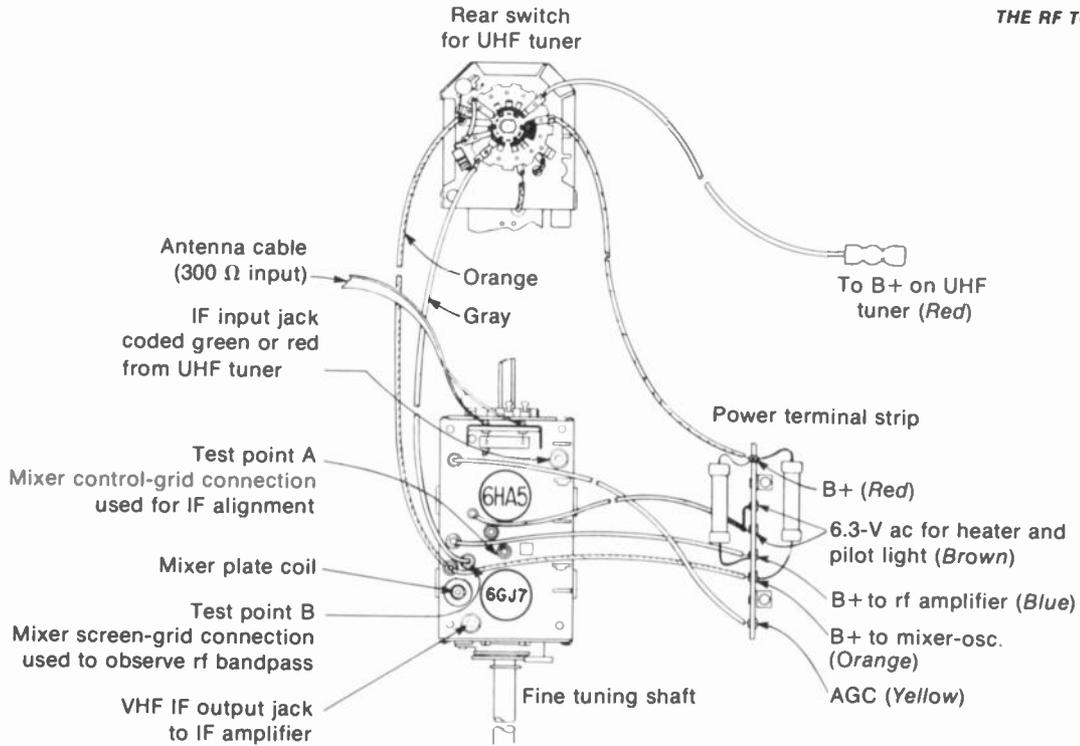

FIGURE 24-3 CONNECTIONS ON VHF TUNER. (ZENITH 750 SERIES)
**Tuner connections.** As illustrated in Fig. 24-3, the VHF tuner needs connecting leads for B+ voltage, AGC bias, and heater voltage for tubes. The IF output is connected to the IF amplifier by a short length of coaxial cable with a plug at the tuner end. Output from the UHF tuner also has a coaxial cable that plugs into the VHF tuner. Since there is a terminal strip for the electrode voltages and coaxial plug connections for the signal leads, it usually is relatively easy to disconnect the tuner for replacement.